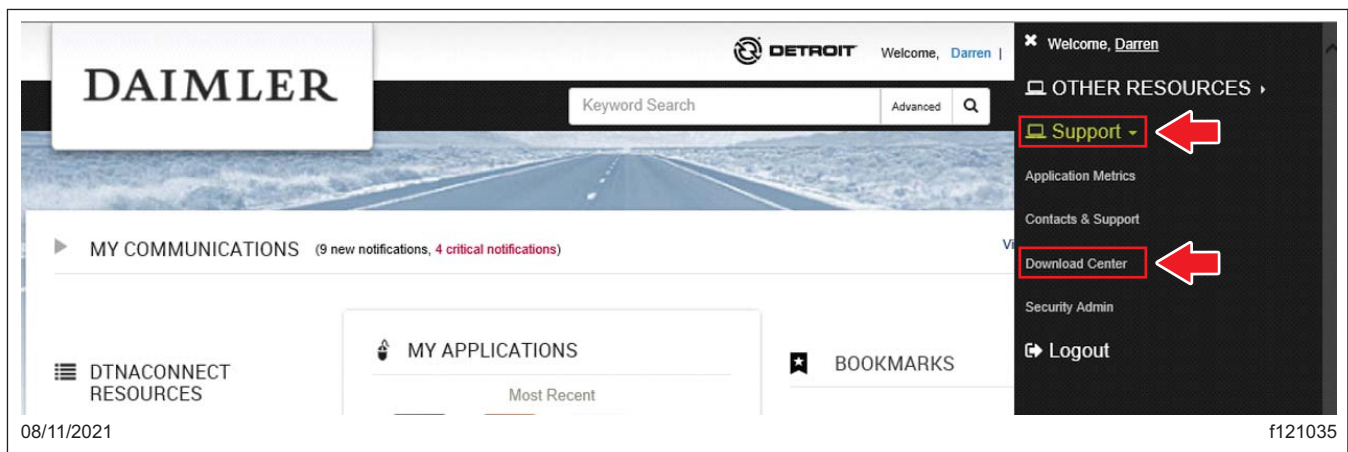

Fig. 2, Link to Download Center
3. Select 'Support,' then select 'Download Center.' See Fig. 2.